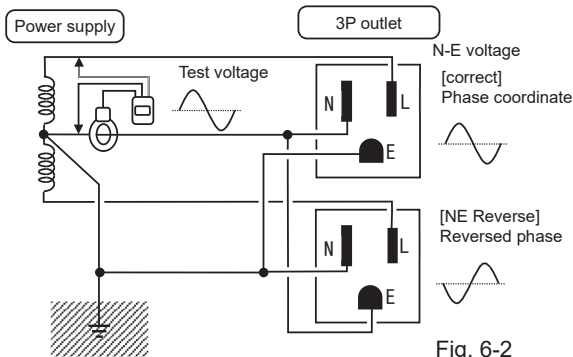

Fig. 6-2
As shown in Fig. 6-2, apply test voltage to a neutral wire (N) via signal source. Connect KEW 4506 to a 3P outlet and measure the test voltage between N-E and then compare the phase of test voltage and reference value to judge whether: the phase is the same with the reference value [Correct] or 180-degree reverse (opposite to the reference value) [NE Reverse].